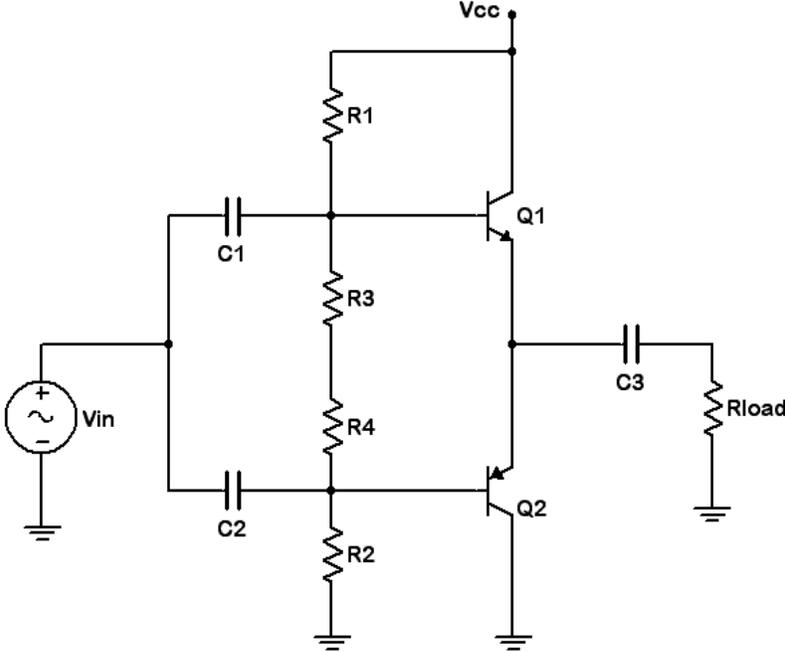

Figure 1
1. Consider the circuit of Figure 1 using  $V_{cc} = 6$  volts,  $R_1 = R_2 = 2.2$  k $\Omega$ ,  $R_3 = R_4 = 220$   $\Omega$ ,  $R_{load} = 100$   $\Omega$ ,  $C_1 = C_2 = 10$   $\mu$ F and  $C_3 = 100$   $\mu$ F. Ideally this circuit will produce a compliance of just under 6 volts peak-peak.
2. Build the circuit of Figure 1 using  $V_{cc} = 6$  volts,  $R_1 = R_2 = 2.2$  k $\Omega$ ,  $R_3 = R_4 = 220$   $\Omega$ ,  $R_{load} = 100$   $\Omega$ ,  $C_1 = C_2 = 10$   $\mu$ F and  $C_3 = 100$   $\mu$ F. Disconnect the signal source and insert an ammeter into the collector of Q1. Record  $I_{CQ}$  in Table 1.